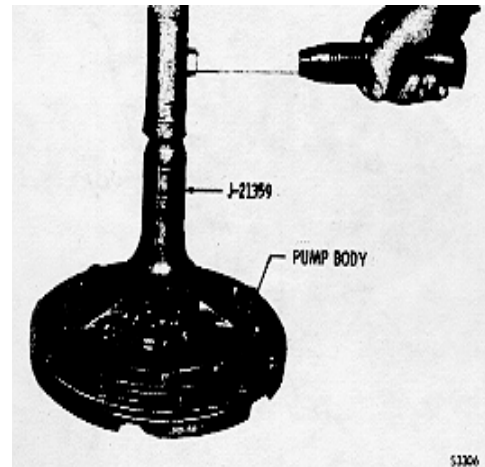

Fig. 6-32. Installing oil pump seal
(7) If either plug 20 or 22 was removed, install a new plug. Press plug 20 into the support flush to 0.010 inch (0.25 mm) below the surface. Press plug 22 to the shoulder in the support.
(8) If bushing 7 (B, foldout 5) was removed, install a new bushing. The split in the bushing must be located within the 10 to 12 o'clock position in the pump body, when viewing the front of the body (within a 600 area immediately left of a vertical line extending upward from the pump body center). Use installer tool J-25356 to press the bushing into the front of the pump body. When installed, the front edge of the bushing should extend 0.010 to 0.020 inch (0.25 to 0.51 mm) above the surface.
(9) Coat the oil seal bore in pump body 8 (B, foldout 5) with Perfect Sealer #4 or an equivalent sealer and install oil seal 3, with the lip facing inward. Figure 6-32 shows the installation of the oil seal, using the special installer tool J-21359.